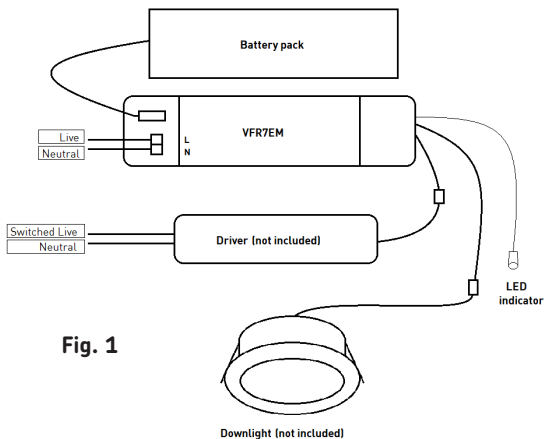

Fig. 1
- Wire the Permanent Live and Neutral to the VFR7EM Emergency Kit (see Fig. 1)